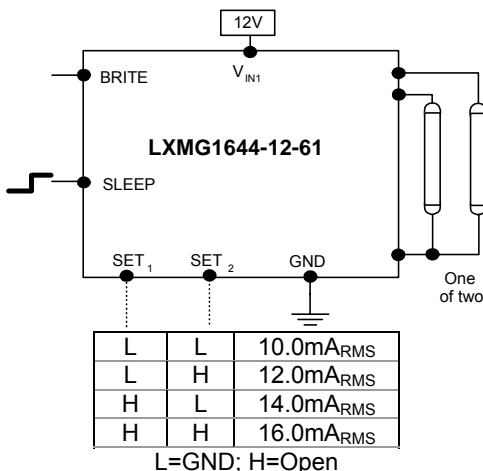

Figure 2 – Max Output Current (Two Lamps)
- Use the SET₁ and SET₂ (see Figure 2) inputs to select the desired maximum output current. Using these two pins in combination allows the inverter to match a wide variety of panels from different manufactures. Generally the best lamp lifetime correlates with driving the CCFL at the manufactures nominal current setting. However the SET₁ and SET₂ inputs allow the user the flexibility to adjust the current to the maximum allowable output current to increase panel brightness at the expense of some reduced lamp life.